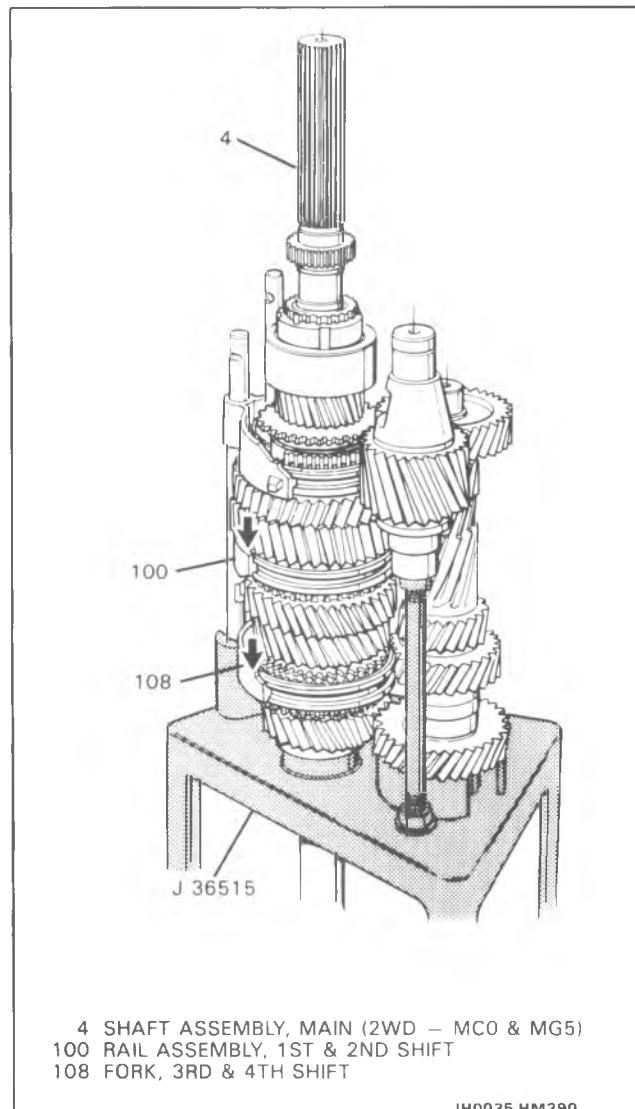

Figure 18 Locking Up Transmission
1. Bolts (304) and (305).
2. 2WD rear housing assembly (300).
3. 2WD output shaft bearing retainer (302).
4. Shim (212).
- Lock up the transmission in 2nd and 4th gear by sliding the 1st-2nd rail assembly (100) and the 3rd-4th shift fork (108) downward towards J 36515 (Figure 18).